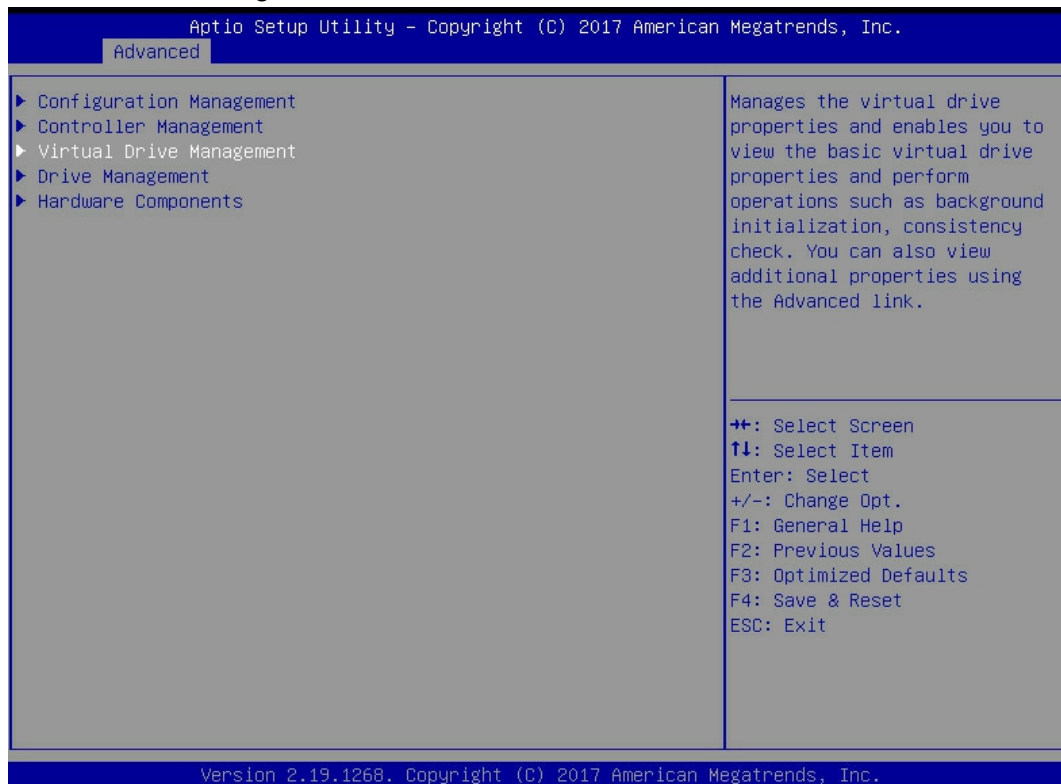

Figure 6-60
a) As shown in Figure 6-60, select virtual drive management in the raid card configuration interface and press enter.
✧ Figure 6-60 raid card configuration interface